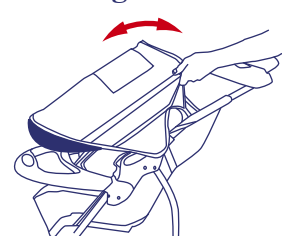

Figure 16.
- The canopy features a ratchet system that allows the canopy to be moved forward or back to block the sun or wind. To adjust the canopy's position, push forward or backward on the canopy until the canopy is in the desired position. See figure 16.